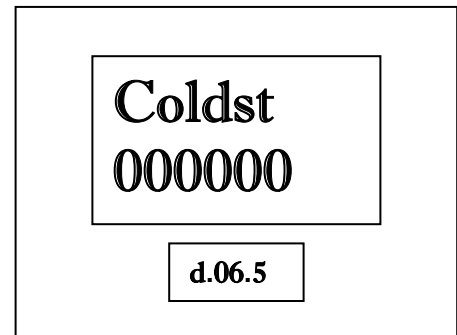

Figure 46
6.5 - ColdSt. The display shown in Figure 46 appears. The PPV display shows the dispenser is in Diagnostics Level 6.5.